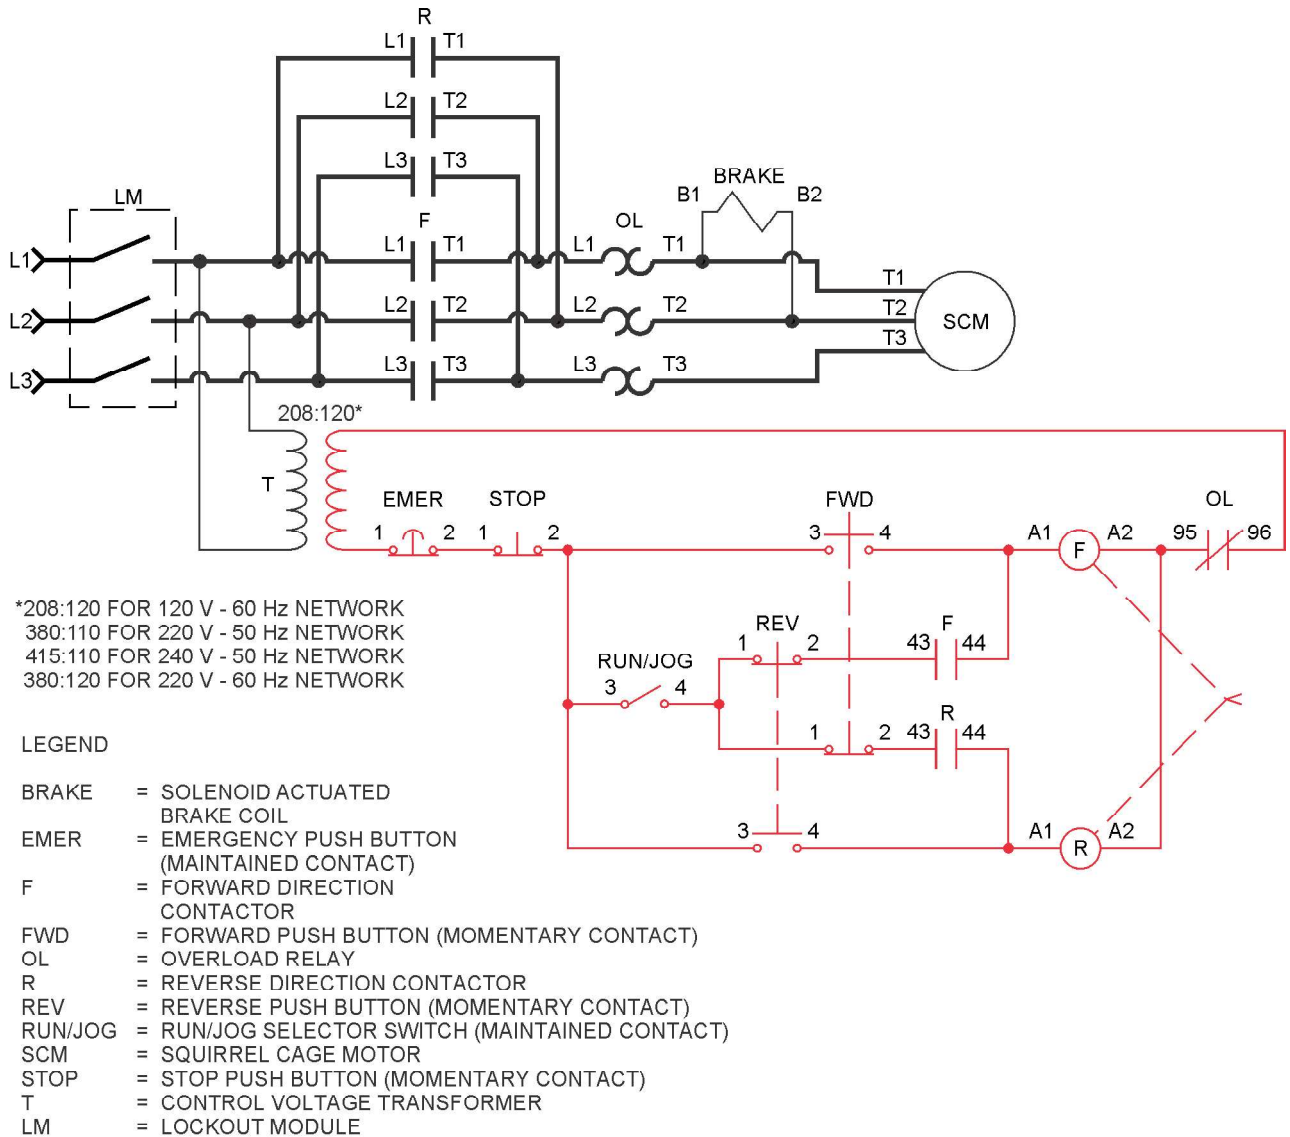

Figure 4-10. Reversing starter circuit with selector switch jogging.
Many other configurations of reversing circuits with jogging can be implemented. For example, a selector switch may be utilized to switch between jogging and running modes. Such a circuit is shown in Figure 4-10 and is proposed as an additional exercise.
*To fulfill the demands of the client, implement the Figure 4-10 circuit and verify that it corresponds to what the client wants.*
4. In the Figure 4-10 circuit, what happens when the selector switch is turned to the JOG position?
5. In the Figure 4-10 circuit, what happens if the emergency button is pressed?